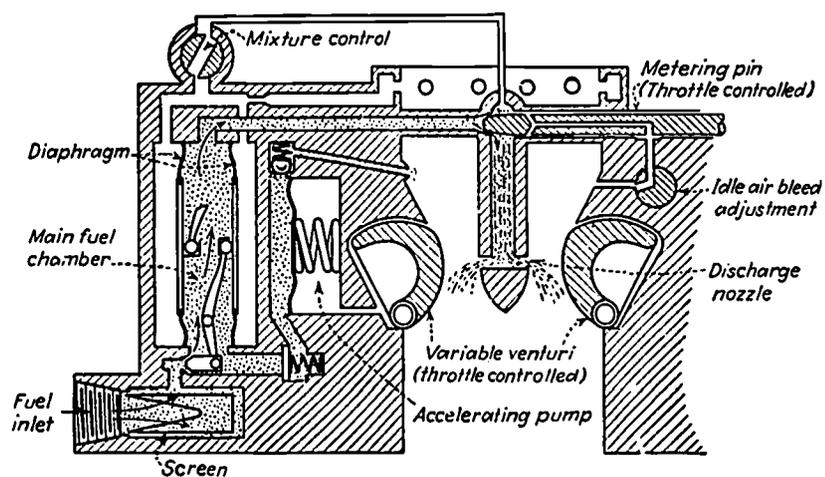

Figure 20. The Diaphragm Carburetor.
*Diaphragm carburetor.*—In the variable venturi, or diaphragm, type of carburetor, the throttle valve is replaced by two moveable knobs located at the entrance to the venturi (Fig. 20). The knobs are rotated by action of the throttle control and regulate the flow of air by opening or closing the venturi. As the air flow is changed, a variable fuel metering jet supplies fuel in the proper amounts to maintain the best air-fuel ratio.